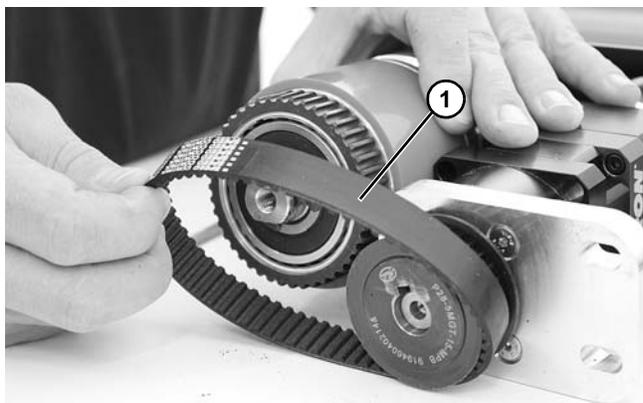

Figure 149
9. Remove timing belt (Figure 149, item 1).